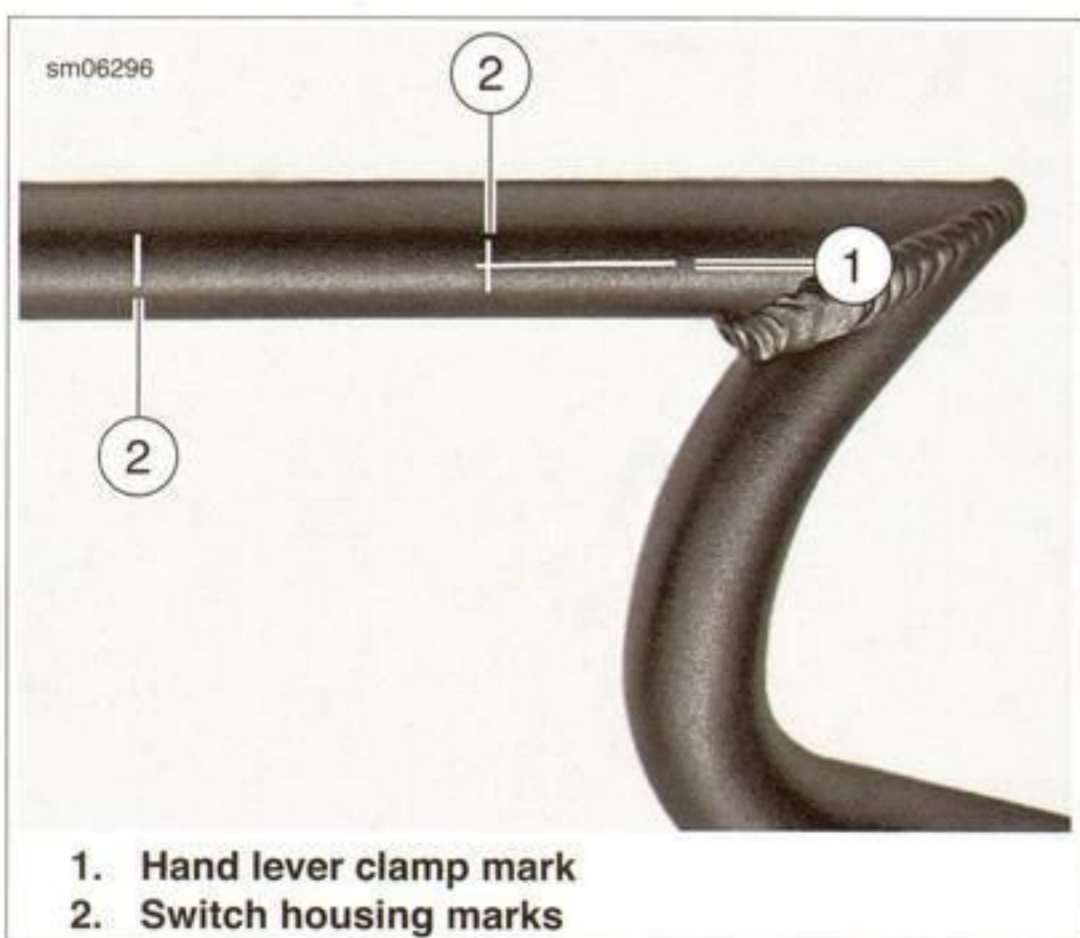

Figure 2-146. Hand Lever Clamp and Switch Housing Marks: 1125CR
1. See Figure 2-146. Fit switch housings up against grip on the handlebar between the alignment marks (2).
3. Install clutch lever master cylinder/reservoir assembly and clamp. Position the split between the clamp and the lever bracket over the mark (1) on the handlebars.